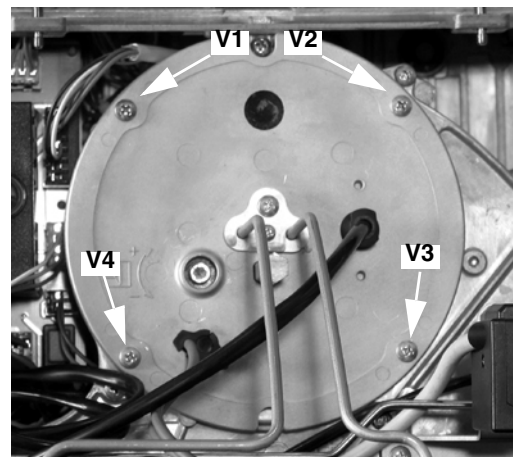

Fig. 23
- Remove the 4 screws V1 - V4 shown in Fig. 23.